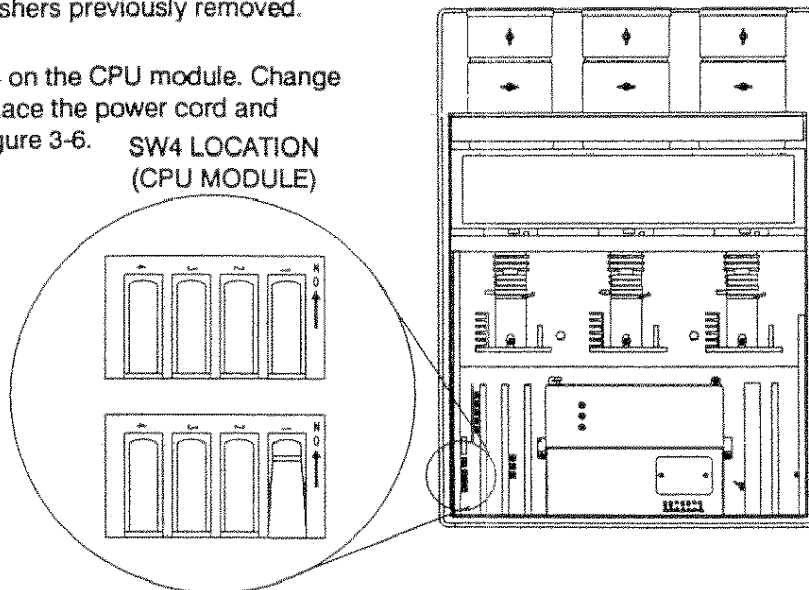

FIGURE 3-6. ADDING A QUAD VIDEO DECODER MODULE.
- STEP 5. Locate DIP switch SW4 on the CPU module. Change SW4-1 to the "ON" position, replace the power cord and energize the system. Refer to figure 3-6.